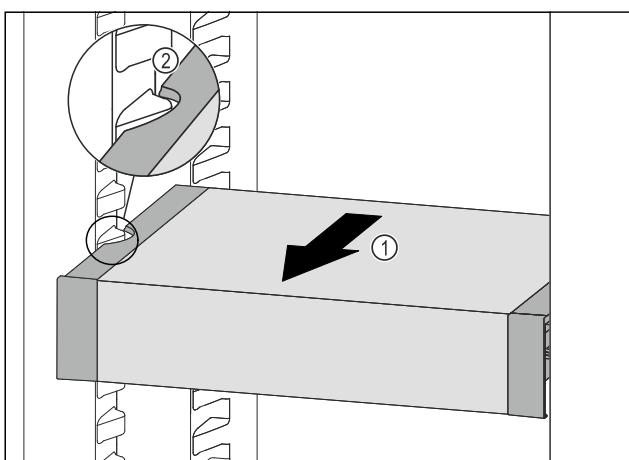

Fig. 99
► Pull VarioSafe forwards Fig. 99 (1) until the recesses in the side of the VarioSafe are at the level of the support rib in the fridge section. Fig. 99 (2)